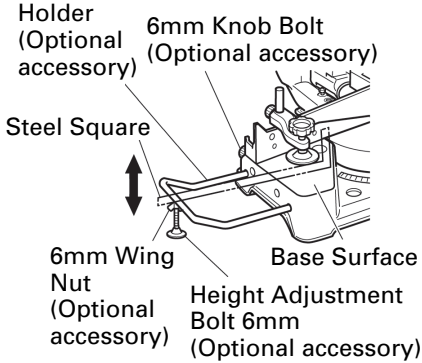

Fig. 13
(1) As indicated in Fig. 13, use a steel square for aligning the upper edge of the holders with the base surface.